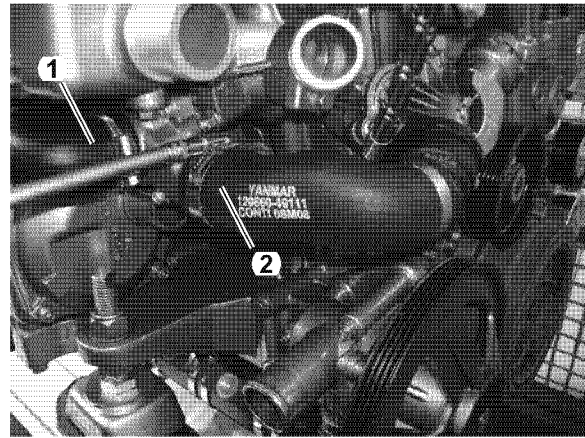
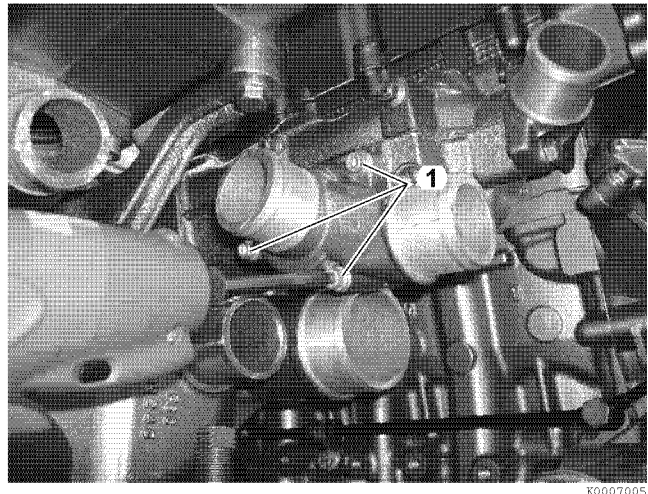

Figure 7-21
Figure 7-22
3. Remove coolant hose (1, **Figure 7-21**) connecting thermostat housing to heat exchanger.
4. Remove coolant hose (2, **Figure 7-21**) connecting thermostat housing to the coolant pump. To release the clips on the coolant hose see, *Disconnect and Connect Quick-Connect Fittings* on page 7-10.
*Note: Coolant hoses shown removed for clarity **Figure 7-21** and **Figure 7-22**.*
5. Remove the three thermostat housing bolts (1, **Figure 7-22**) and remove the thermostat housing assembly.
1. Clean the thermostat housing and mounting surfaces **Figure 7-21**.